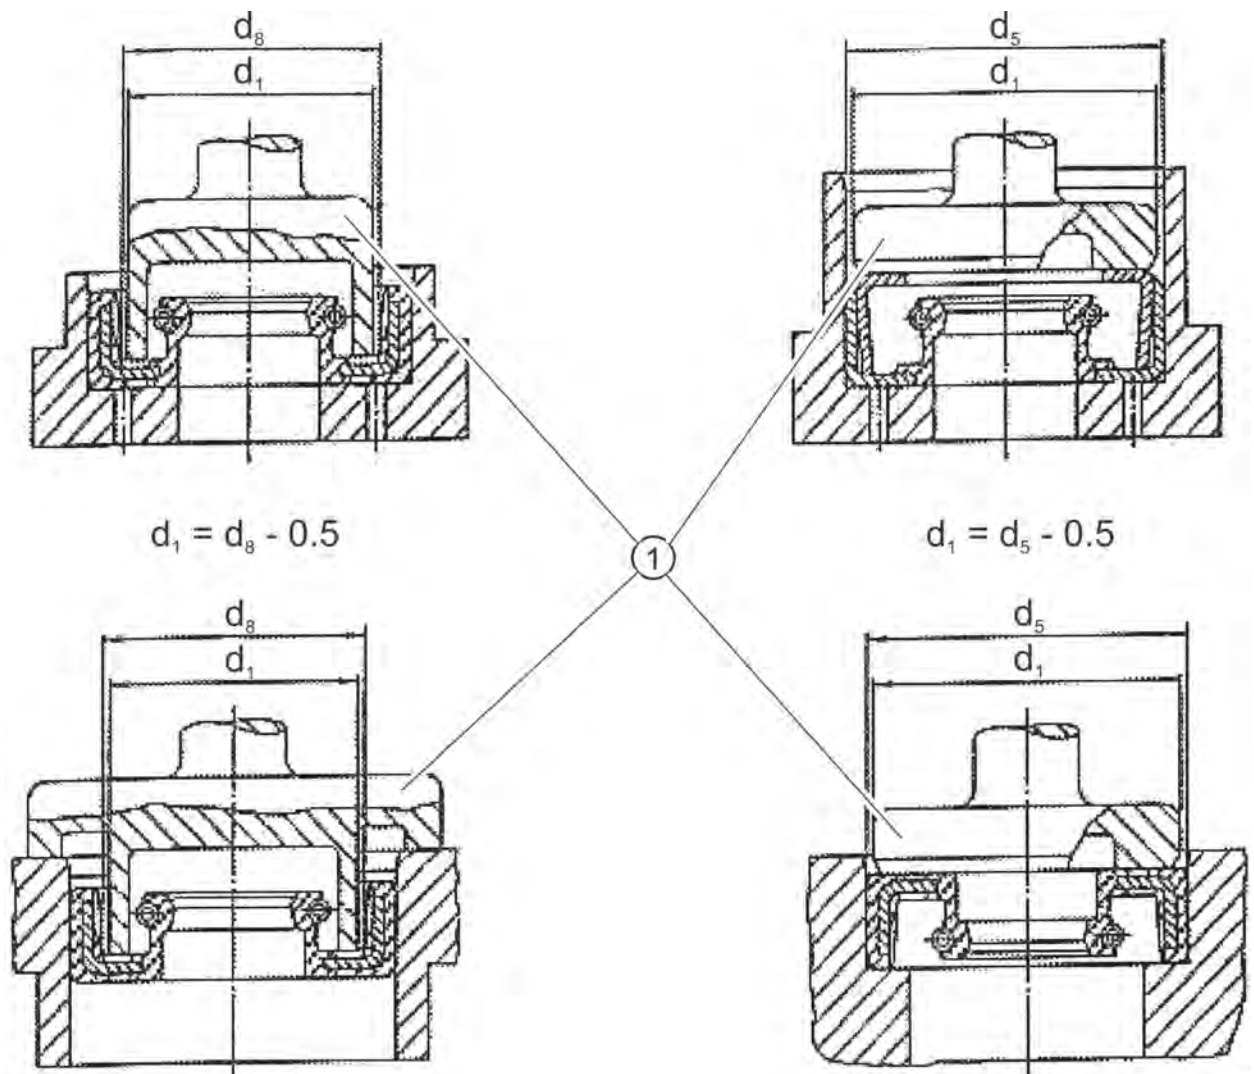

Figure 2: Press-in tool
5. To install the rotary shaft seal, you will need a device with a light press and a suitable plunger (see Figure 2).